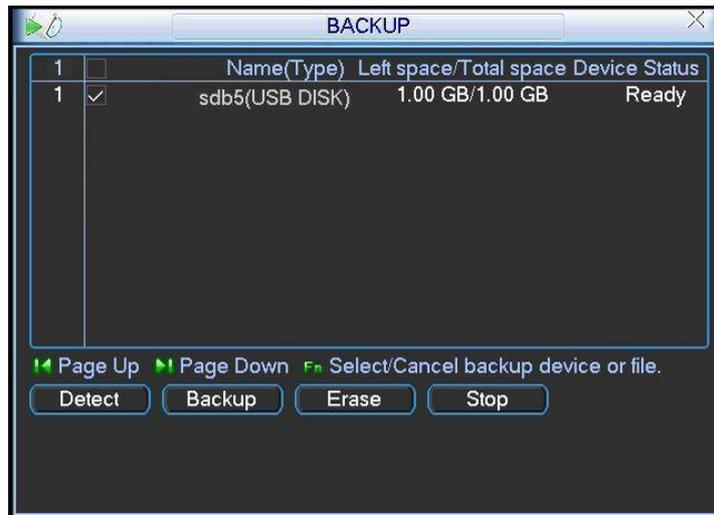

Figure 4-25
- PTZ activation: Here you can set PTZ movement when alarm occurs. Such as go to preset, tour& pattern when there is an alarm. Click “select” button, you can see an interface is shown as in Figure 4-25.
Here is for you to view devices information. Here you can view the devices available and its corresponding capacity and status. See Figure 4-25.